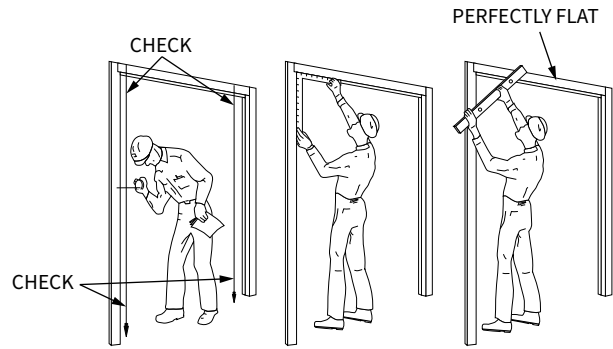

Figure 4: Checking Plumb and Square
3. Measure door openings to verify door dimensions (Figures 4, 5). The side frames will fit flush to the opening.